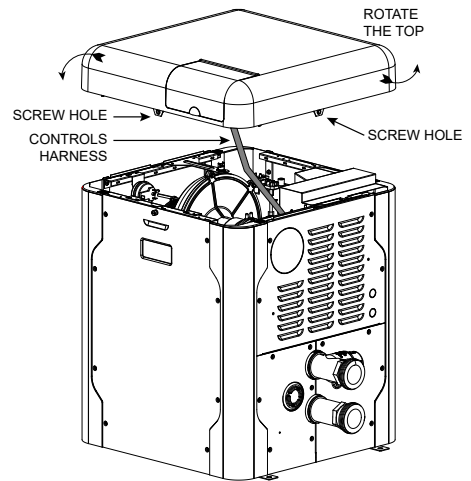

Figure 34. Heater Top Removal
To rotate the top, remove the (2) knurled screws holding the jacket top to the heater as shown below. Rotate the top to the desired position and reinstall the knurled screws to retain the jacket top. See Figure 34 on page 27.
1. Remove the knurled screws from front and rear door. See Figure 34.